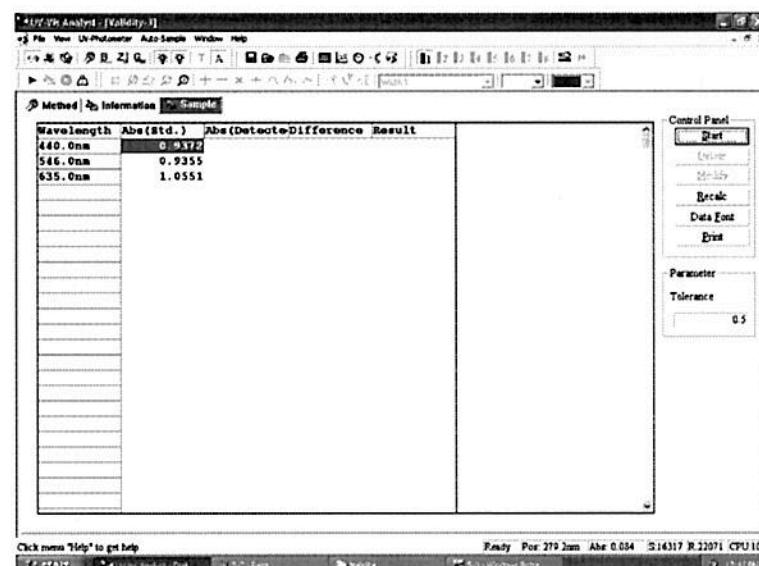

Fig. 5-2
5. Click the Sample tab. Appears following form (Fig. 5-2).